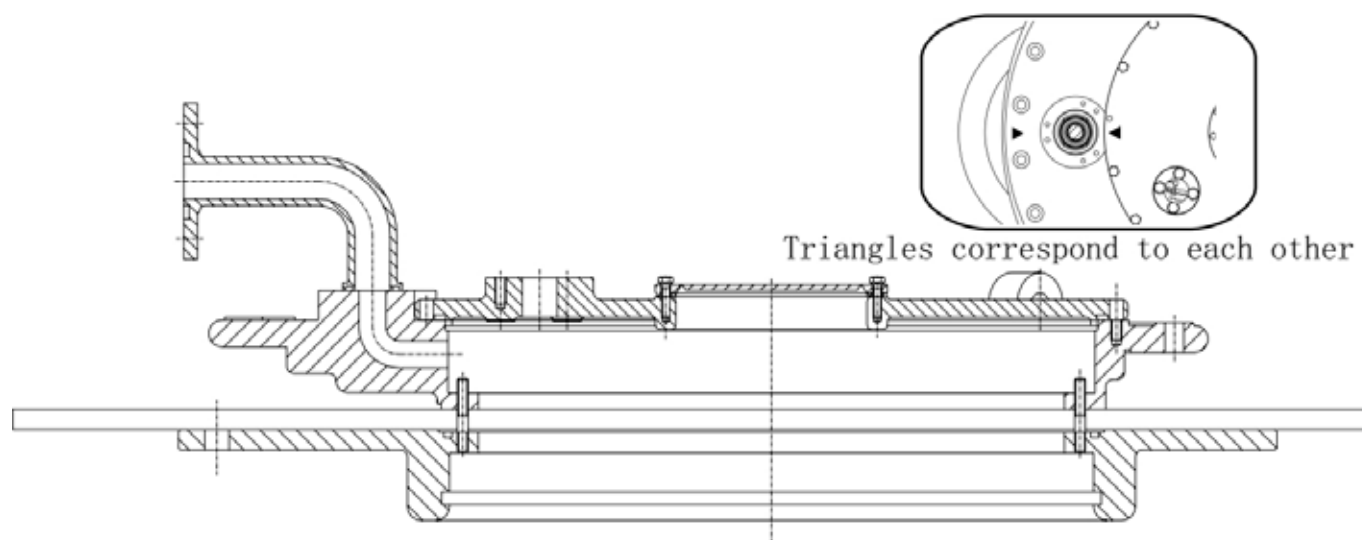

Figure 4.2.12
4.2.5.5 Mount the on-load tap-changer on the head mounting flange. Take care that the two positioning screws (extensions) are positioned and that the red triangular marks on the mounting flange and the on-load tap-changer top cover correspond with each other to ensure that the on-load tap-changer is mounted in the correct position. (see Figure 4.2.12).